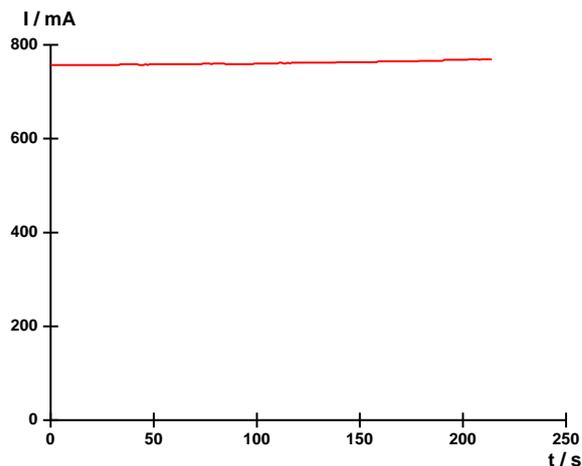

Fig. 5: Current as a function of time
- Plot the measurements of current (“Value” column) against the time in seconds (“DateTime” column) in a graph (Fig. 5).